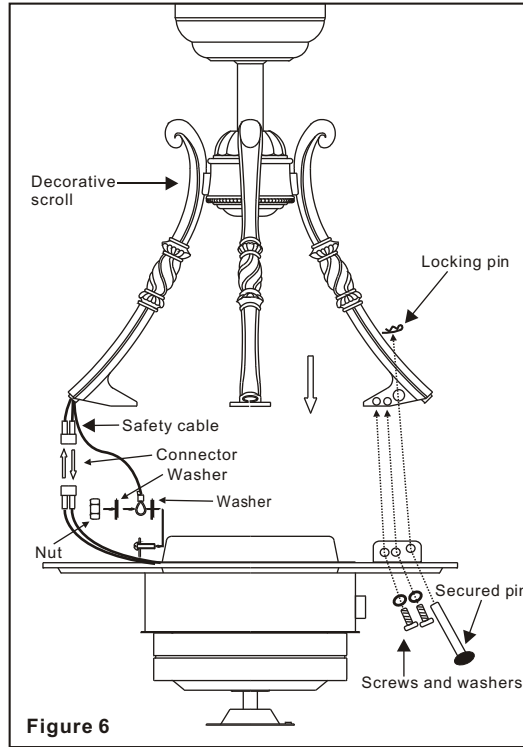

Figure 6
Step 1. Hold the fan motor assembly under the decorative scroll assembly for installation. (Figure 6)
Step 2. Remove the screws and secured pin from the decorative scroll assembly, place the decorative scroll in the top plate of motor assembly, align the screw holes at the bottom of decorative scroll with the holes in the top plate of fan motor assembly and then secure with the two screws and secured pin provided (Figure 6), Repeat the procedure for the remaining decorative scrolls. **NOTE: Make sure the three rods are evenly set on the plate of the motor assembly.**
Step 3. Snap together the wire connection plug from decorative scroll assembly and fan motor assembly. (Figure 6)
Step 4. Remove the nut and washers from the top plate of motor assembly and then place the looped end of the safety cable from the decorative scroll between the two washers and secure with nut provided. (Figure 6)